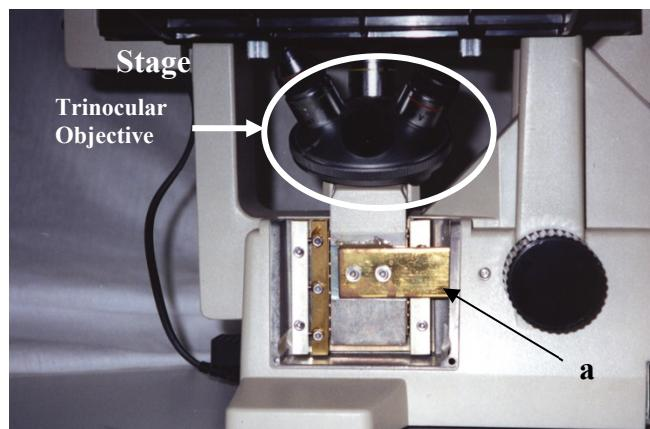

Figure 9. Side view of an Olympus CK2 microscope; screw stop mechanism (*a*) will normally stop movement of the horizontal brass piece at its far right side
1. *Adjust the vertical travel stop mechanism from the focus adjustment on your microscope.* Most microscopes have a screw mechanism to stop the vertical travel point relative to the stage (*a*, Fig. 9). A stop point prevents the objective from contacting the culture plate on the stage. If this stop mechanism is adjusted, the objective lens can travel further allowing the objective to focus on cells on the BioFlex® membrane. Different microscopes have different mechanisms for adjusting the distance for objective lens travel. If you are not sure of the location of your travel adjustment mechanism, contact your local microscope representative or the manufacturer for assistance.